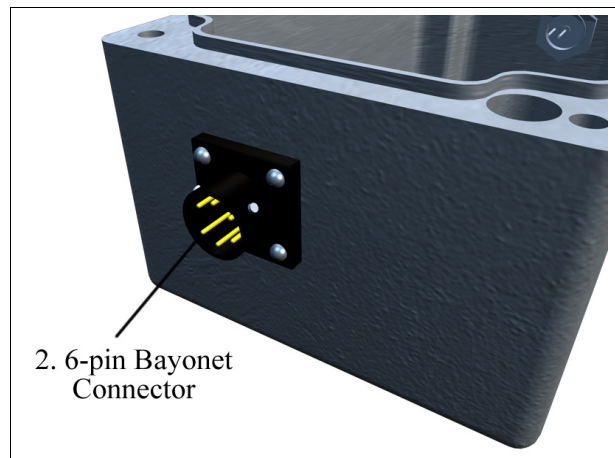

Figure 2-2: 6-pin Connector
2. A 6-pin circular male bayonet connector (Figure 2-2) is used to attach the instrumentation cable to the AWP-24-3. The instrumentation cable carries power to the electronics and carries the high-level output signal from the electronics to a remote data acquisition system or data recording device. The pin-out information for the connector and the instrumentation cable is shown in Table 2-1 below.